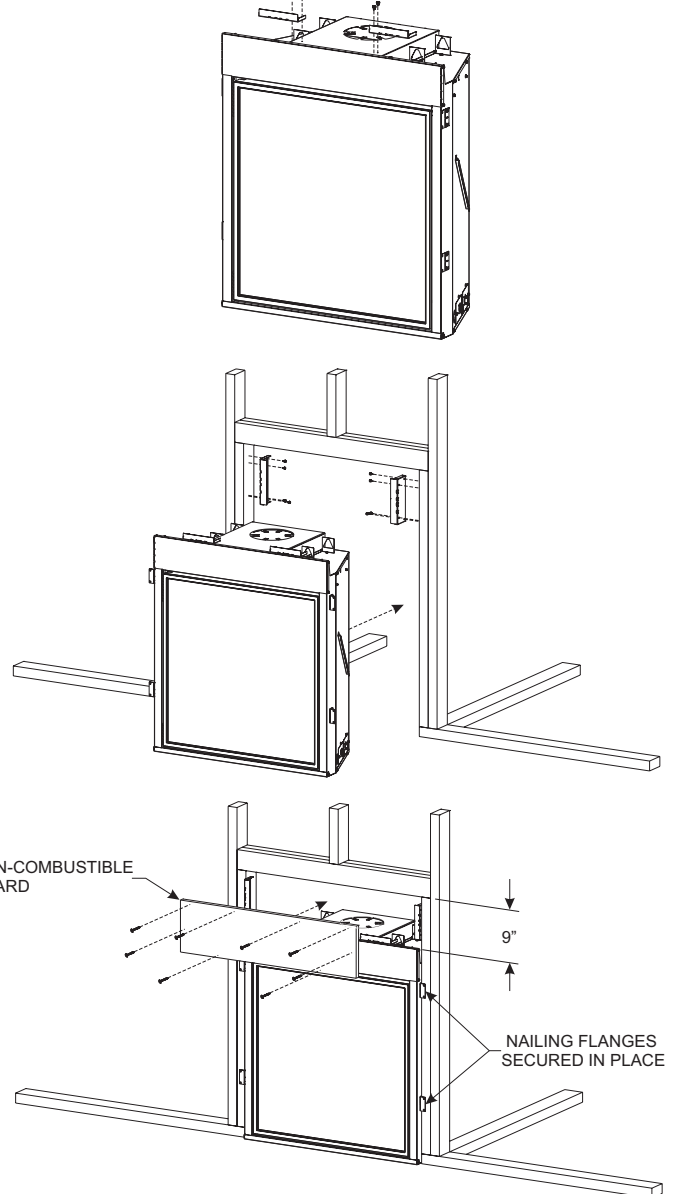

Figure 28
8. Attach the two backer studs to the firebox with four #10 x 1/2 Phillips screws (provided) as shown in **Figure 28.**
9. Attach the two backer studs to the vertical studs with four screws appropriate for installation (not provided) as shown **Figure 28.**
11. Mark non-combustible board for backer stud locations. Place non-combustible board in place and secure with four #8 x 1 self-drilling drywall screws (provided) and three screws appropriate for installation(not provided) as shown in **Figure 28.** To avoid damage to the non-combustible board, do not use more screws.